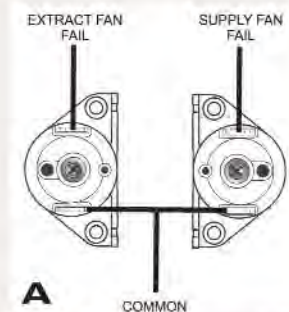

Figure 8
- Refer to Figure 8 interchange the following connections
- 5.2.6 Referring to Figure 8, connect the canopy electrical cable as follows:
- If 3 wires are available see Figure 8. This connection is for the individual fans